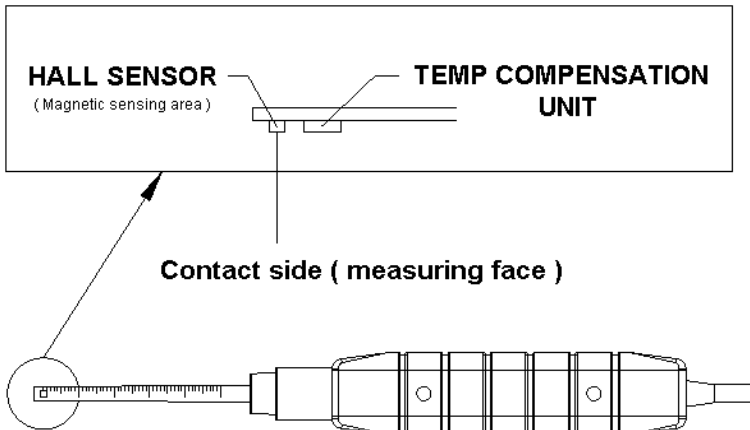

Fig. 3
- * **Display will not show " N (S) indicator.**
- 5) Contact and close the testing material to the probe head (refer to Fig. 3) , the Display will show the magnetic field value along with the unit (mT,G).